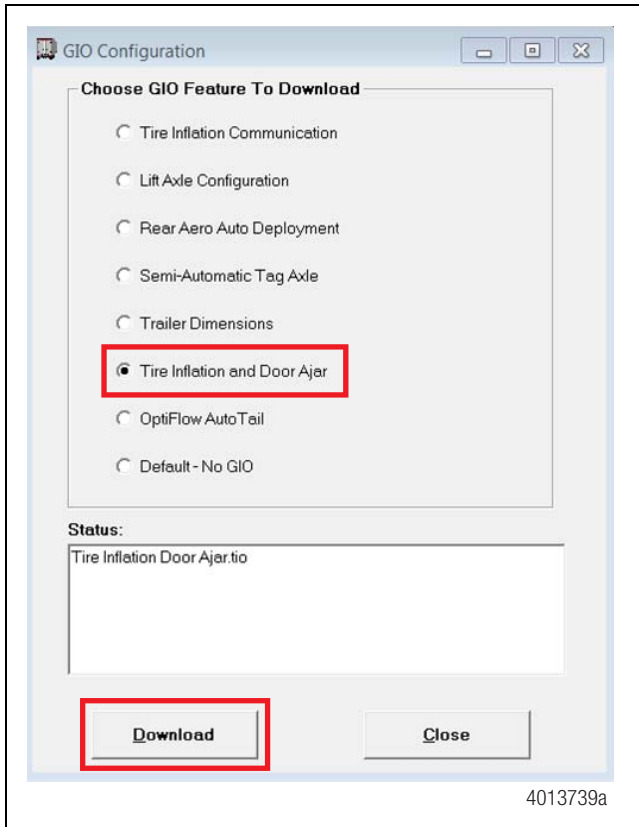

Figure 6
4. When the GIO Configuration screen is displayed, click the **Tire Inflation and Door Ajar** radial button. Ensure that a circle appears in the box. Then, press the **Download** button at the bottom of the screen. Figure 6.